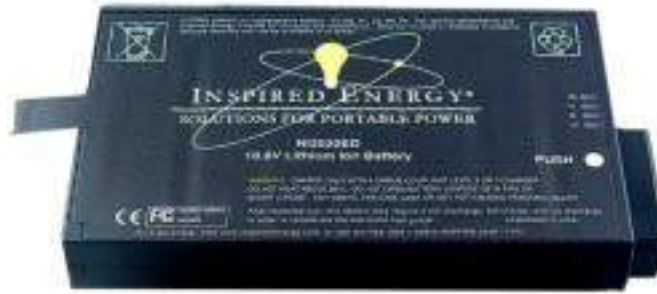

Figure 5: Lithium Ion Battery Pack w/BMM (Courtesy Inspired Energy, LLC)
The internal battery pack consist of (9) internal Li-Ion cells assembled in a 3 series/3 parallel (3S-3P) configuration and packaged with an on-board Battery Management Module (BMM) as illustrated in Figure 5. The technical specifications are provided in Table 7.